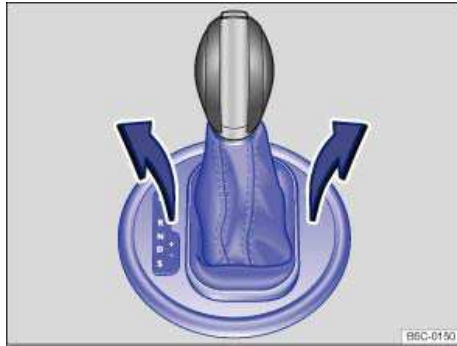

Fig. 156 Removing the selector gate cover.
- Pull upward on the cover around the selector lever sleeve ⇒ fig. 156.